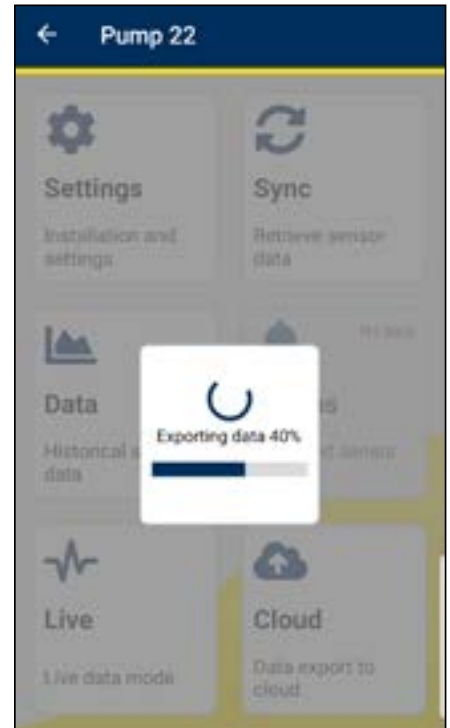

Figure 40
5. The Export data progress bar will be display until export is completed (see figure 40).